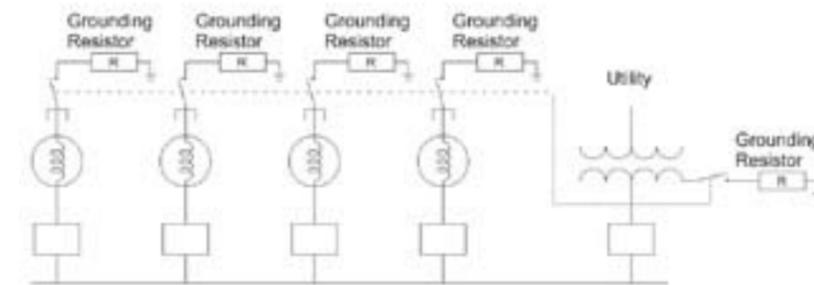
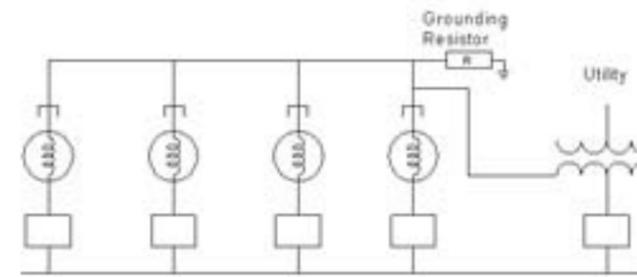

Fig. 3 Variation of Single Point Grounded System
Fig. 4 Common Neutral Single Point Grounded System
**Single Point Ground System.** Single point grounding ensures that only one source is grounded at any given time. There are three ways in which this can occur. Fig. 3 shows a multiple generated connected system where neutral isolators ensure that only one resistor is connected to the electrical system at one time.
The disadvantages of the ungrounded system described in Fig. 3 are addressed with the system in Fig. 4. In this scenario the neutrals are all connected together and there would exist only one return path for any ground faults. The concern of generators going off line is also addressed.
There are 2 major disadvantages of this kind of system, one being the circulating third harmonic currents through the connected neutrals, and the other being the complex serviceability of a generator. With the neutrals all connected together, a ground fault anywhere in the system will elevate the potential of the neutral whether the generator is connected to the system or not. This poses a safety hazard for any personnel working on the generators. The following schematic addresses the single point ground with an artificial neutral. This method is much simpler than the one in figure 3, however the disadvantage is the ungrounded state of the generators when not connected to the electrical system.